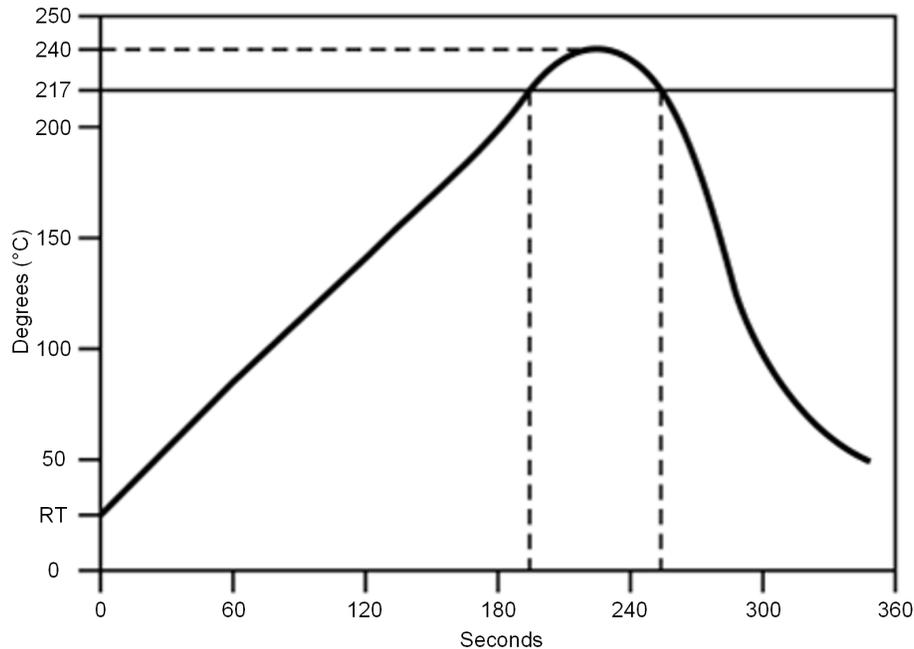

图 11-1. Temperature Profile for Evaluation of Solder Heat Resistance of a Component (at Solder Joint)
- Temperature measurement: Thermocouple $d = 0.1\text{ mm}$ to 0.2 mm CA (K) or CC (T) at soldering portion or equivalent method
- Allowable reflow soldering times: 2 times based on the reflow soldering profile (see 图 11-1)
- Temperature profile: Reflow soldering will be done according to the temperature profile (see 图 11-1)